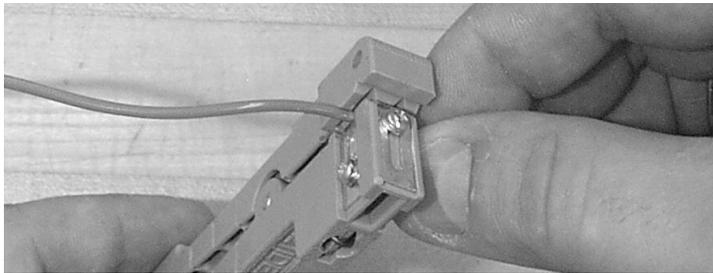

Figure 31 – Score the buffer tube.
5.20 Use a buffer tube stripper to score the buffer tube (Figure 31). Make only **one** revolution around the tube. The tube should be scored rather than cut.